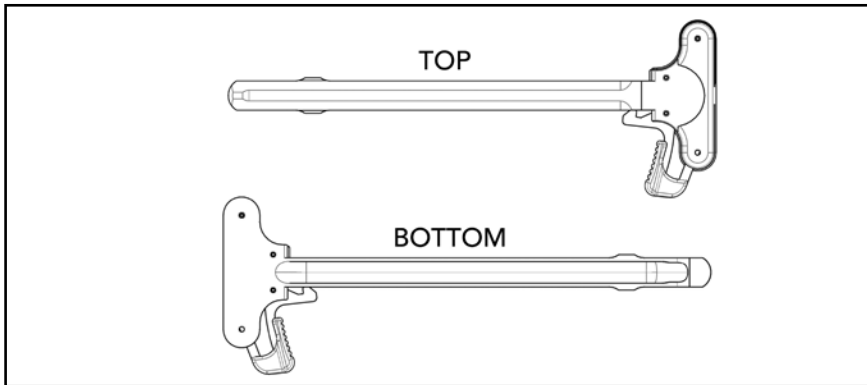

Fig. 58 – Lubrication of MR556A1 Charging Handle
5. Apply a medium coat of CLP to the interior and exterior surfaces of the charging handle (Fig. 58).